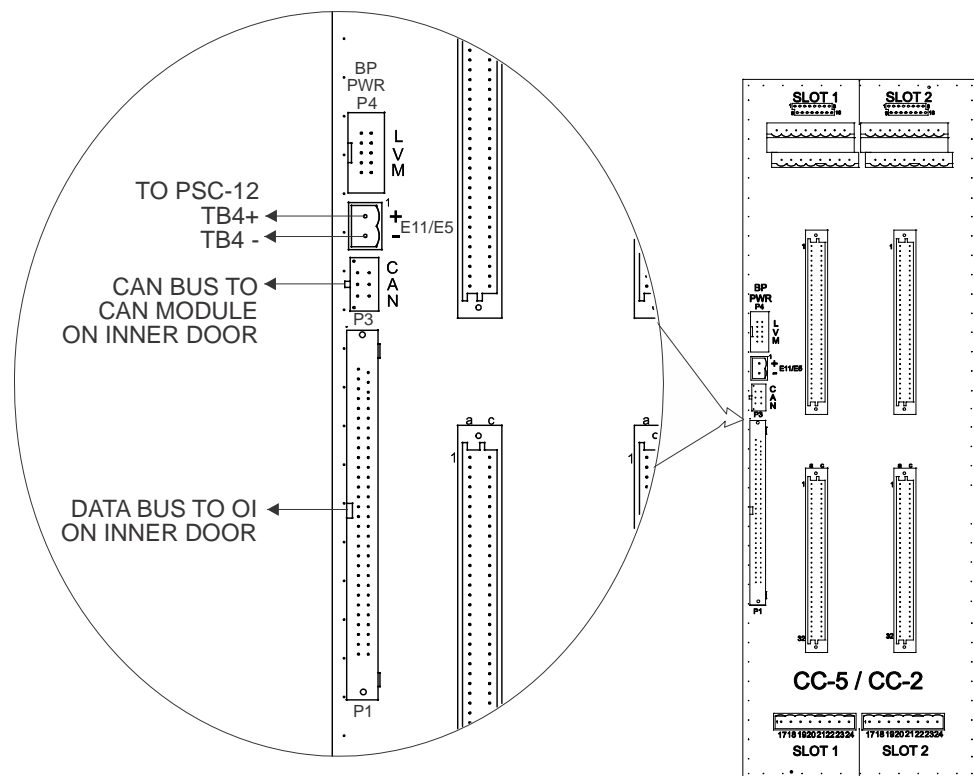

Figure 1
(Refer to Figure 1.) The 58 inch, 60-pin Data Bus cable is used to connect from JP3 on the Operator Interface (OI) to P1 on the CC-5/CC-2. Use the 58 inch cable instead of the 40 inch long 60-pin cable, P/N 555-133743, that is shipped with the OI.
The 58 inch, 6-pin CAN cable is used to supply CAN communications and power to the LED Control Modules (LCM-8), Switch Control Modules (SCM-8), Control Modules (FCM-6), Live Voice Module (LVM) and Fireman's Master Telephone (FMT). Use the 58 inch CAN cable instead of the 30 inch CCL CAN cable, P/N 555-634214, that is shipped with the LVM. The connector is keyed and requires no special instructions for cable connection. CAN power must be supplied to E11 (CC-5) or E5 (CC-2). Refer to Figure 1 for wiring details.